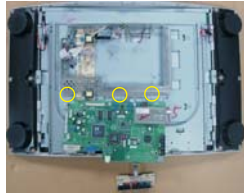
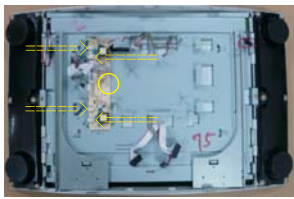

Fig. 16
Fig. 17
- c. Remove the Scaler and HD board as Fig.16 .
- d. Unscrew the 3 screws and remove the shielding-lower-ap as Fig.16 and Fig.17 .
- e. Unscrew the 1 screw and disconnect the 4 cables as Fig.17 .